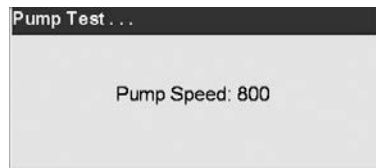

Fig. 7-21 Pump Speed
- The pump will automatically step through all the speeds used during normal operation (50 to 800 pps (pulses per second)) (Fig. 7-21) and return to the **<Tests>** screen.